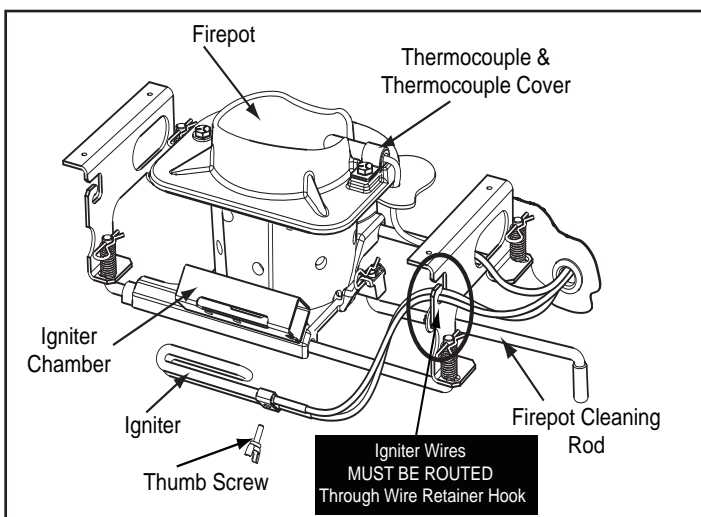

Figure 23.2
3. Install new igniter into the chamber and tighten thumb screw. The wires **MUST** route through the wire retainer hook and then re-connect the wires to the 2 leads with the spade connectors. **Figure 23.2.**